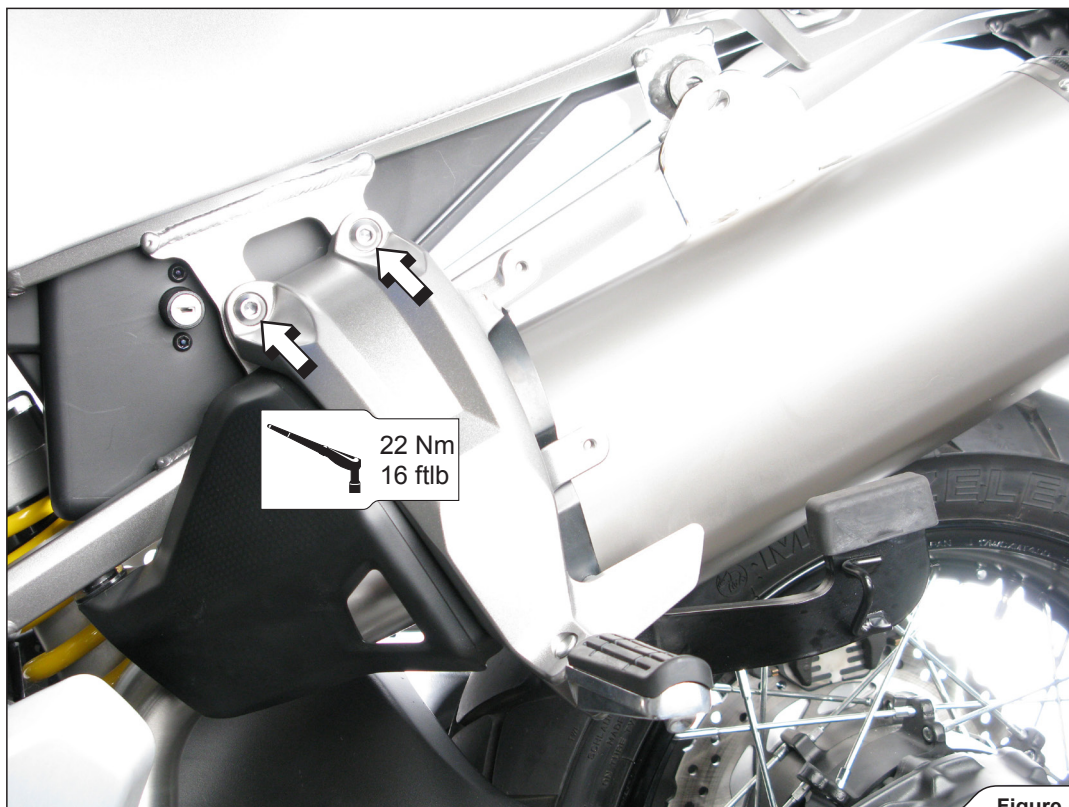

Figure 5
2. Position the Akrapovic muffler correctly and slide it onto the outlet of stock collector. Install the passenger's footrest and tighten the marked bolts to a specified torque (**Figure 5**).